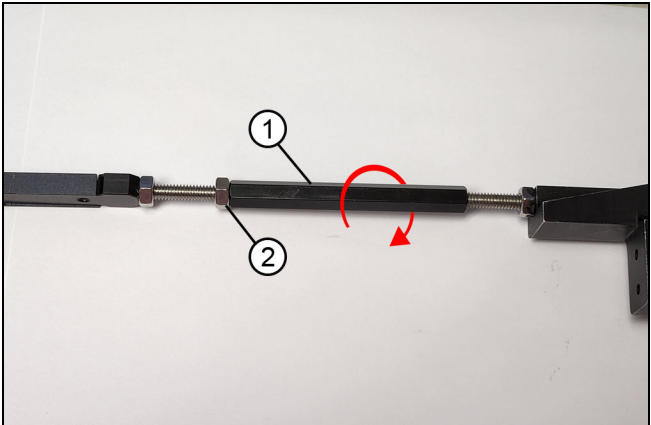

Figure 42
9. Tighten the lock nut against the turnbuckle barrel. See Figure 42.